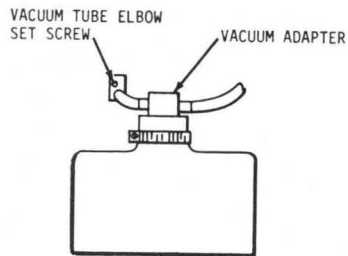

Figure 6-11. Removal of Vacuum Tube Adapter
- e. Using a .50 Allen wrench, LOOSEN set screw in vacuum tube adapter elbow located on underside of mainframe, figure 6-11. Remove elbow from sleeve. Prop open hopper using about one inch of cards inserted at a right angle.